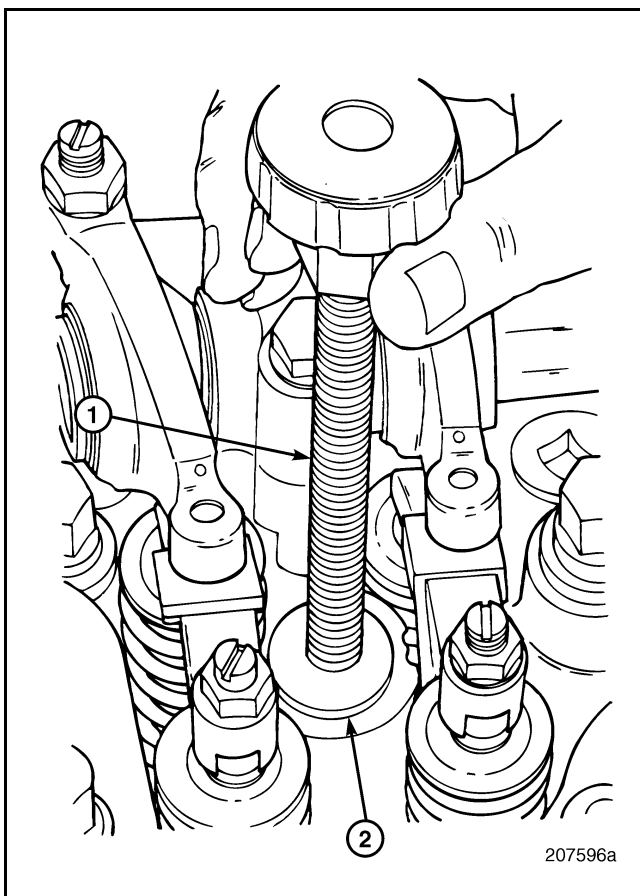

Figure 284 — Nozzle Holder Installation Check
7. Insert the gauge block into the nozzle holder sleeve bore. The gauge block should be flush with the top surface of the cylinder head nozzle sleeve bore. Refer to Figure 284.